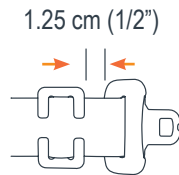

Fig. 15b
4. Secure the vehicle shoulder belt to the lap belt by using the Locking Clip 1.25 cm (1/2") from the buckle (Fig. 15b).